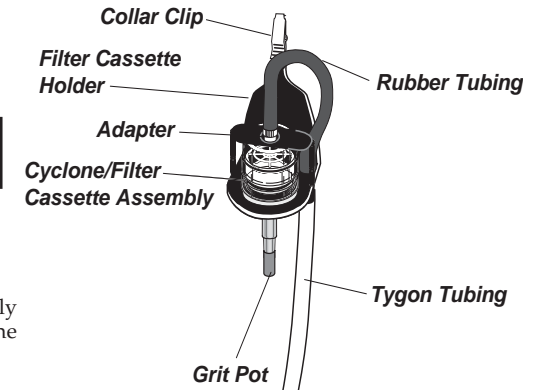

Figure 3
- Insert cyclone/cassette assembly through large opening of filter cassette holder (see Figure 3). Ensure assembly is seated firmly in holder by inserting the cyclone's side pin (small round nodule on rim of cyclone) into the notch in the filter cassette holder.